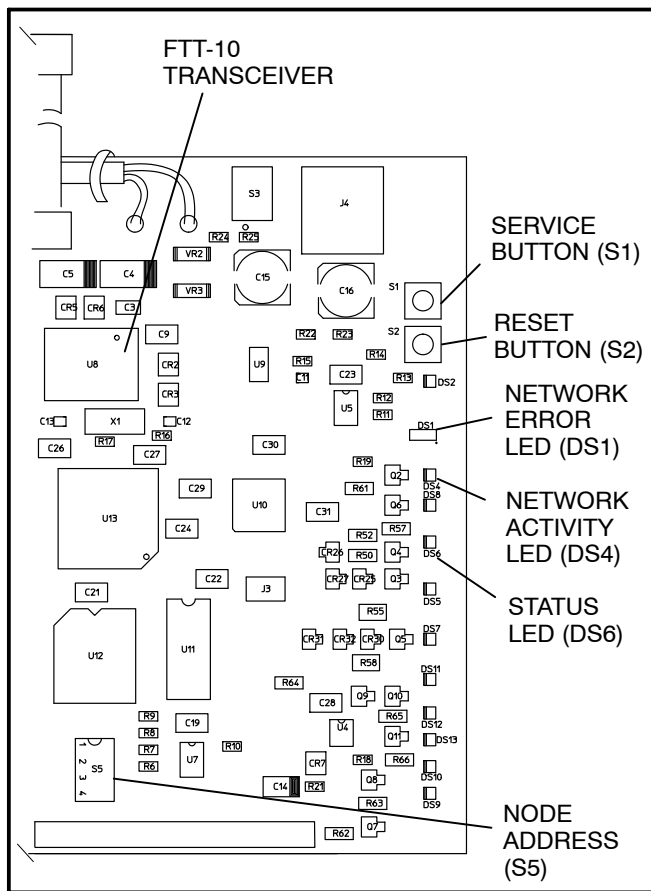

FIGURE 8-8. BUTTON AND LED LOCATIONS
After the device has been installed, the *Node Address* can be verified by counting the number of pulses of the “STATUS” LED (DS6) (see Figure 8-8). Make sure each device has a unique node address.
4. Press and hold the *Service* button (S1) (see Figure 8-8) for approximately two seconds until the *Network Status* LED (DS6) begins flashing.
To verify the genset has installed itself properly and is bound to the ATS, disconnect the J6 data cable from the engine interface board. The “Network Error” LED (DS1) (see Figure 8-8) should turn on (red) within 10 seconds. This indicates communications have failed and that the device was properly bound.